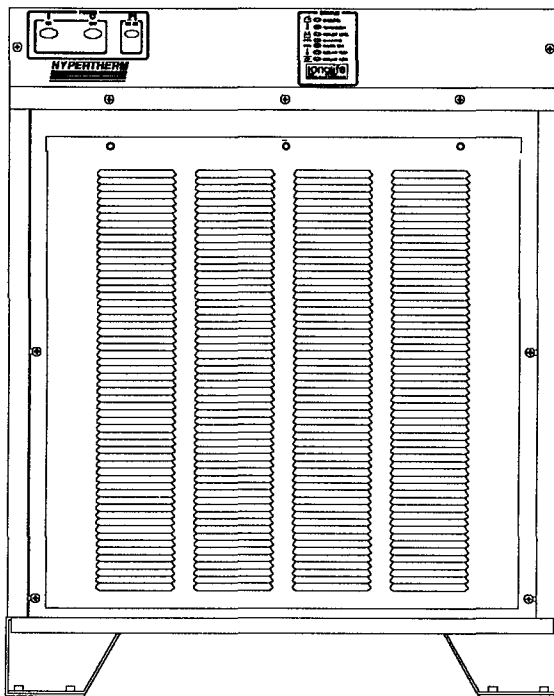

Figure 4 HT2000 with Front Filter Panel
1. Fit front filter panel against power supply and fasten with the 7 screws removed in step I. See Fig. 4 or 5.